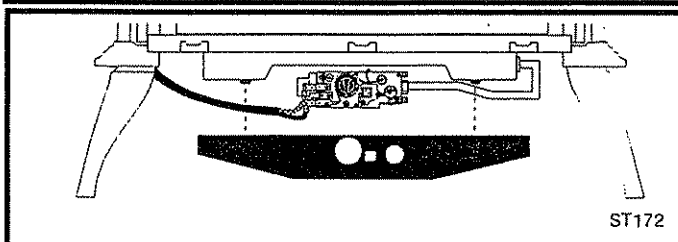

Fig. 41 Remove the Valve Coverplate.
1. **Remove the Control Valve Coverplate.** Loosen, but do not remove the two phillips head retainer screws located behind the coverplate under the firebox. (Fig. 41)